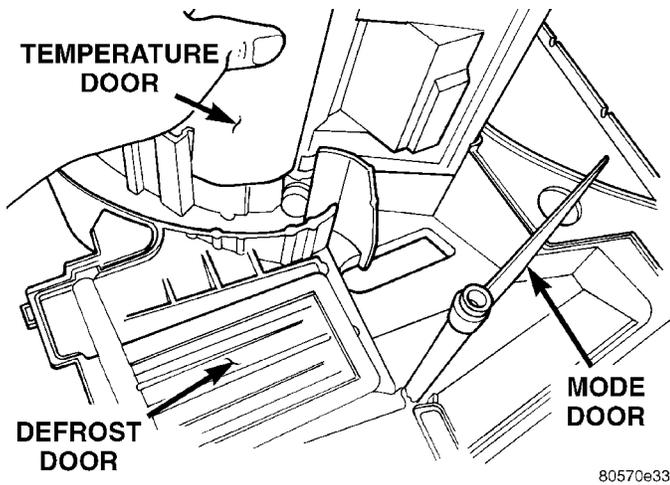

Fig. 50 Temperature Door Removal
(6) Press tab in at base of temperature door and release door from lever (Fig. 50). Then remove the door.